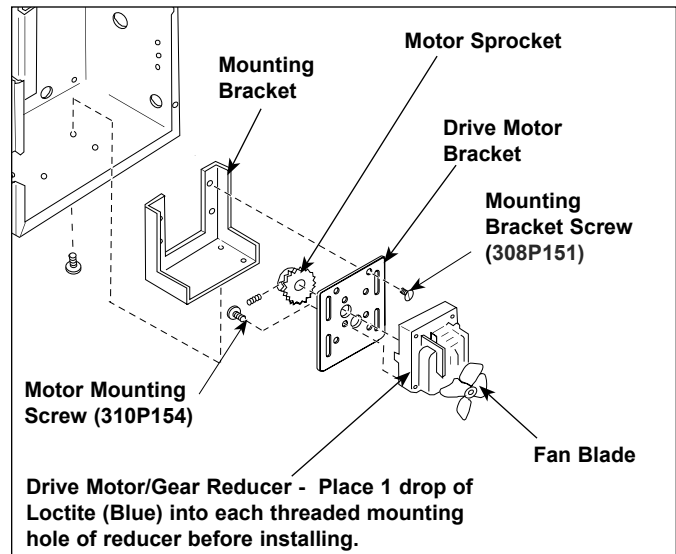

Figure 10. Replacing Drive Motor and Fan Blade
2. Disconnect the motor wires and remove the drive motor and drive motor bracket (Figure 10). Discard the 8-32 x 5/16" mounting bracket screws.
6. Attach the motor sprocket to the gear reducer as shown in Figure 10.